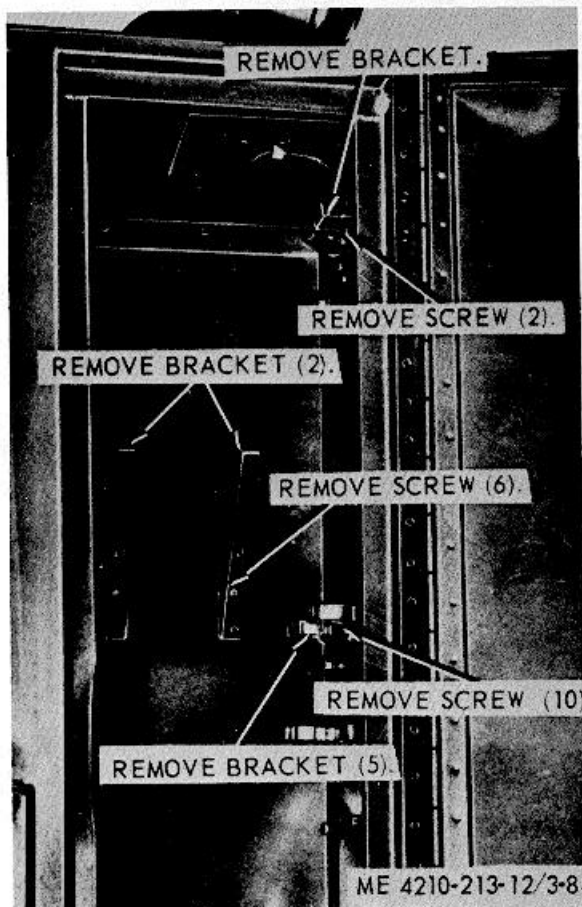

Figure 3-8. Axe, bars, cutter and compartment accessory brackets, removal and installation.
a. *Removal.* Refer to figure 3-8 and remove the axe, bars, cutters, and compartment accessories brackets from the compartment.
(1) Clean all parts with an approved cleaning solvent, and dry thoroughly.
(2) Inspect all parts for damaged or defective condition.
(3) Replace or repair damaged or defective parts as necessary.